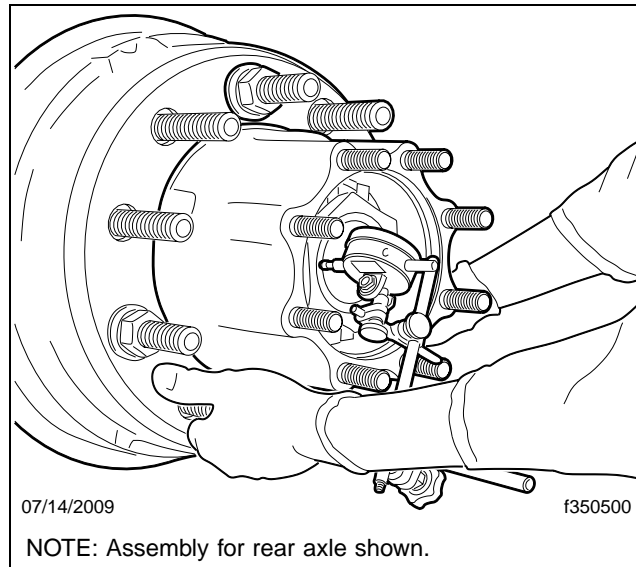

Fig. 32, Pulling the Hub Outward to Measure End Play
- 4.6 Pull the hub and drum outward while oscillating it as before. Maintain pressure on the hub, and note the outboard extent of the end play. See **Fig. 32**.